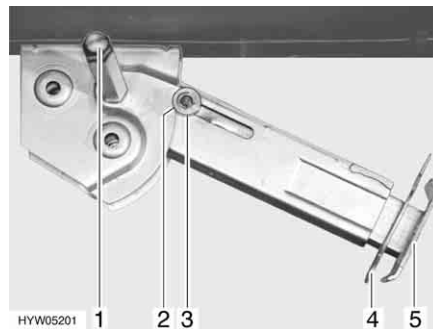

Fig. 29 Steady leg
- Place the socket spanner on the hexagon nut (Fig. 29,1) and rotate until the steady leg is in a perpendicular downward position.
- Remove the splint (Fig. 29,4) out of the support foot extension (Fig. 29,5).
- Place the socket spanner on the hexagon nut (Fig. 29,1) and rotate until the steady leg is clear of the ground.
- Push in the support foot extension (Fig. 29,5) and insert the splint (Fig. 29,4) in the drilled hole in the support foot extension.
- Rotate the hexagonal nut (Fig. 29,1) with the socket spanner until the steady leg has swung upwards and the guide disc (Fig. 29,3) has completely retracted into the notch (Fig. 29,2).